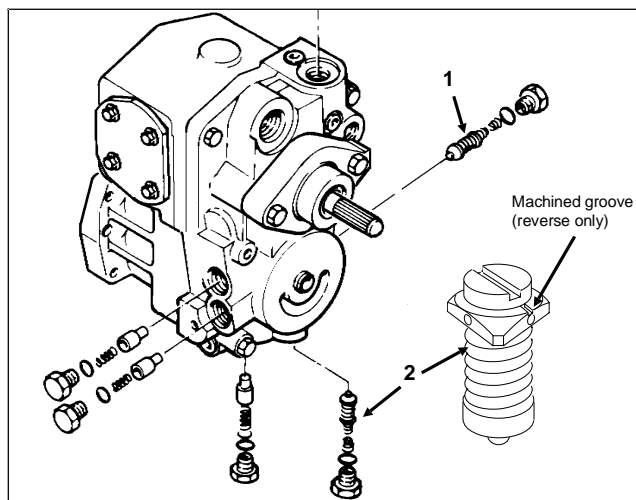

Figure 32
2. Remove the check/high pressure relief valve hex plug (Fig 32).
NOTE: The forward and reverse valves are different. The seating surface of the "reverse" check/high pressure relief valve has a machined groove in it (Fig. 32). Installing the "reverse" check/high pressure relief valve in the wrong port may cause performance problems.